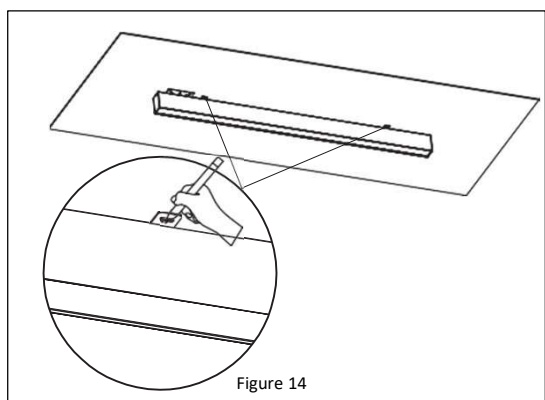

Figure 14
3. Hold the fixture on mounting surface, then mark the mounting positions of the brackets installed in the previous step. **See Figure 14.**